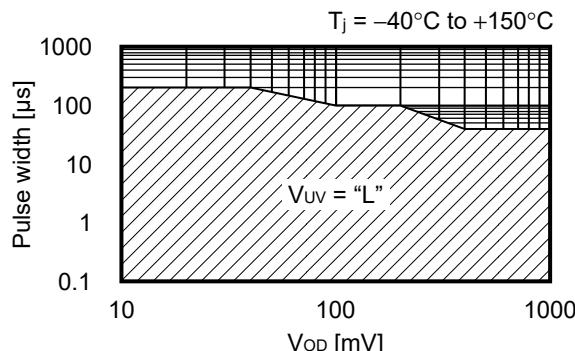

Figure 23
Figure 23 shows the relation between pulse width and pulse voltage difference ( $V_{OD}$ ) where the undervoltage detection status can be maintained when a pulse equal to or higher than the undervoltage release voltage ( $V_{UVREL}$ ) is input to the SENSE pin during undervoltage detection status.
**Caution** Figure 23 shows the pulse condition which can maintain the undervoltage detection status. If the pulse whose pulse width and  $V_{OD}$  are larger than this condition is input to the SENSE pin, the UV pin may change to an undervoltage release status.